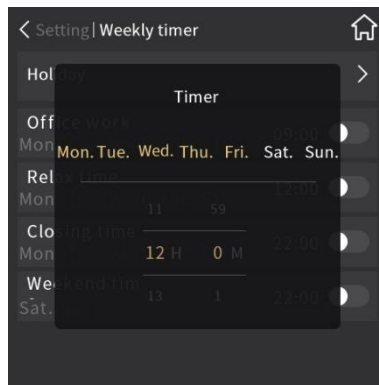

Fig.2.11.12
**21 By touching the middle position of this area to pop up window as shown in Fig.2.11.12;**
As shown in Fig.2.11.12, when there is no holiday added, the interface displays “No holiday timing setting, please add”.